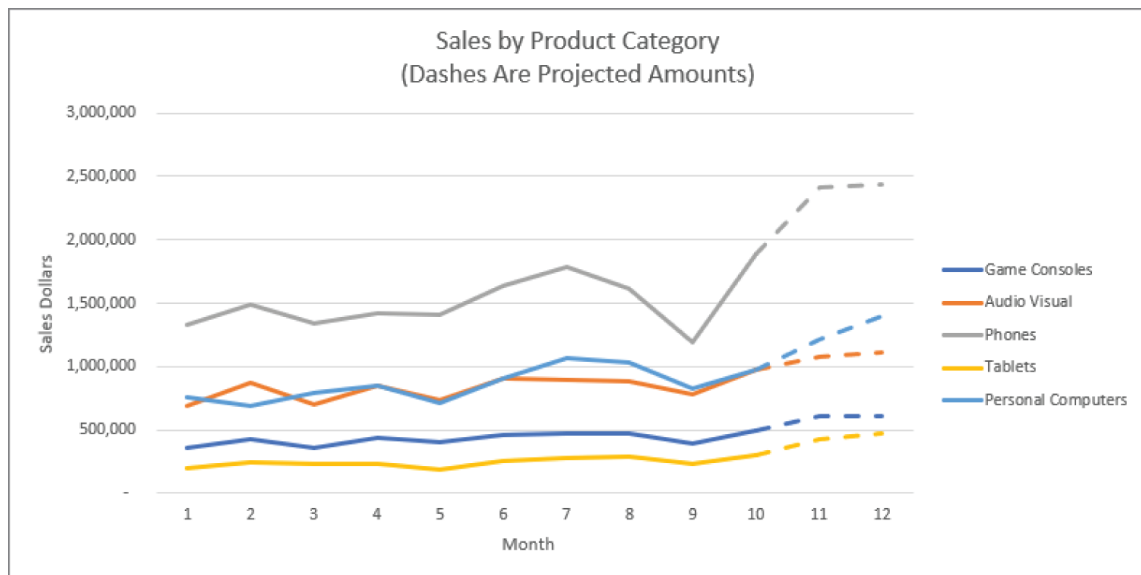

Figure 9.13: A line chart with projected sales
12. Change the title to explain what the dashes mean. The final chart is shown in Figure 9.13.